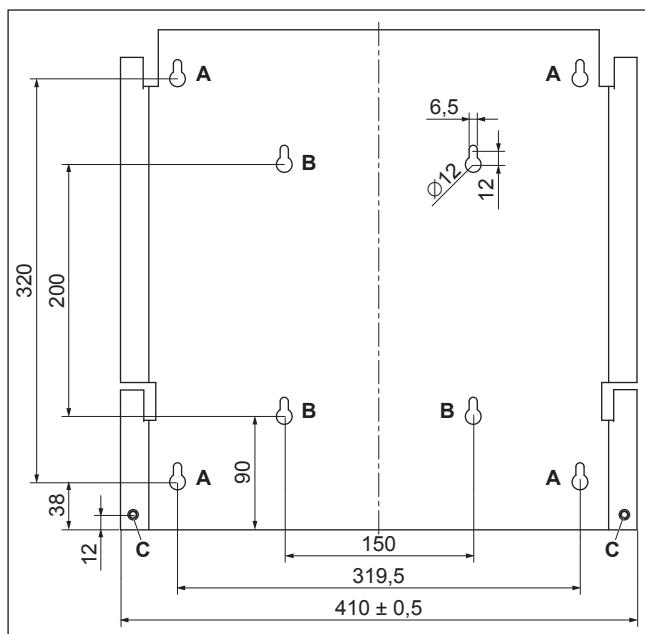

Fig. 7.4.: Dimensioned drawing of the mounting plate
1. Fasten the mounting plate to the wall using at least 4 screws ( $\varnothing$  6 mm) and appropriate dowels. Use the 4 holes **A** or the 4 holes **B** for the 4 screws (see Fig. 7.4). You can use the mounting plate as a template for marking the positions of the holes to be drilled.
4. Secure the solar power inverter to the mounting plate by fitting the washers and mounting nuts on the stud bolts and then tightening (see Fig. 7.4, item **C**). (The stud bolts are also used for connecting the grounding cable to the solar power inverter.)
- An additional securing washer is required to connect the ground cable to the solar power inverter (see Fig. 7.4, item C).